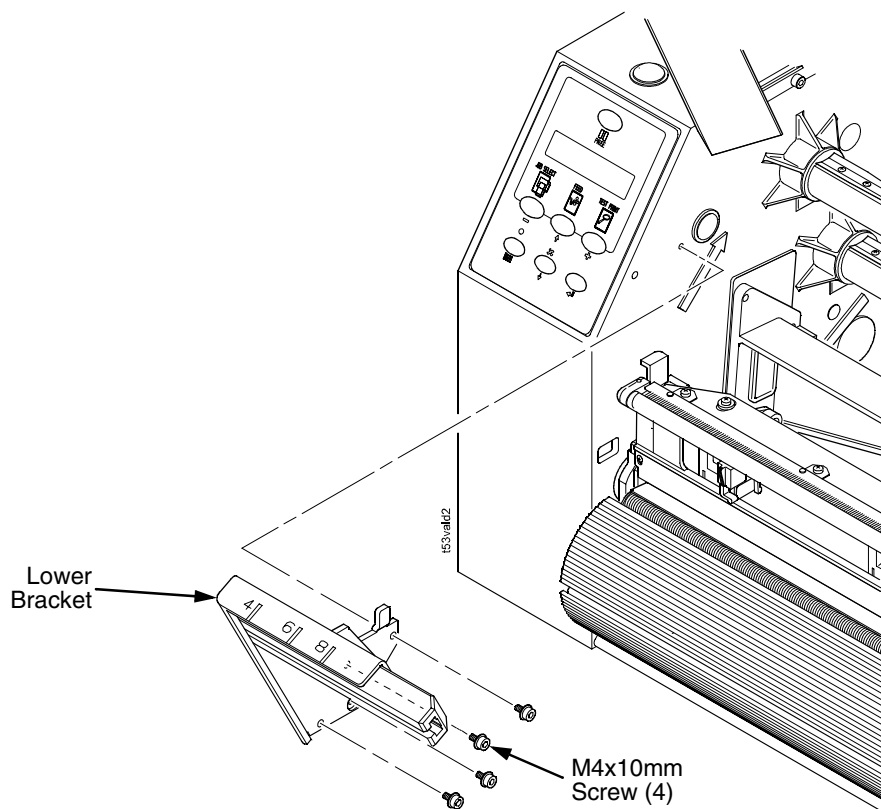

Figure 9. Installing the Lower Bracket
1. Using the four M4x10mm screws, install the lower bracket as shown in Figure 9.